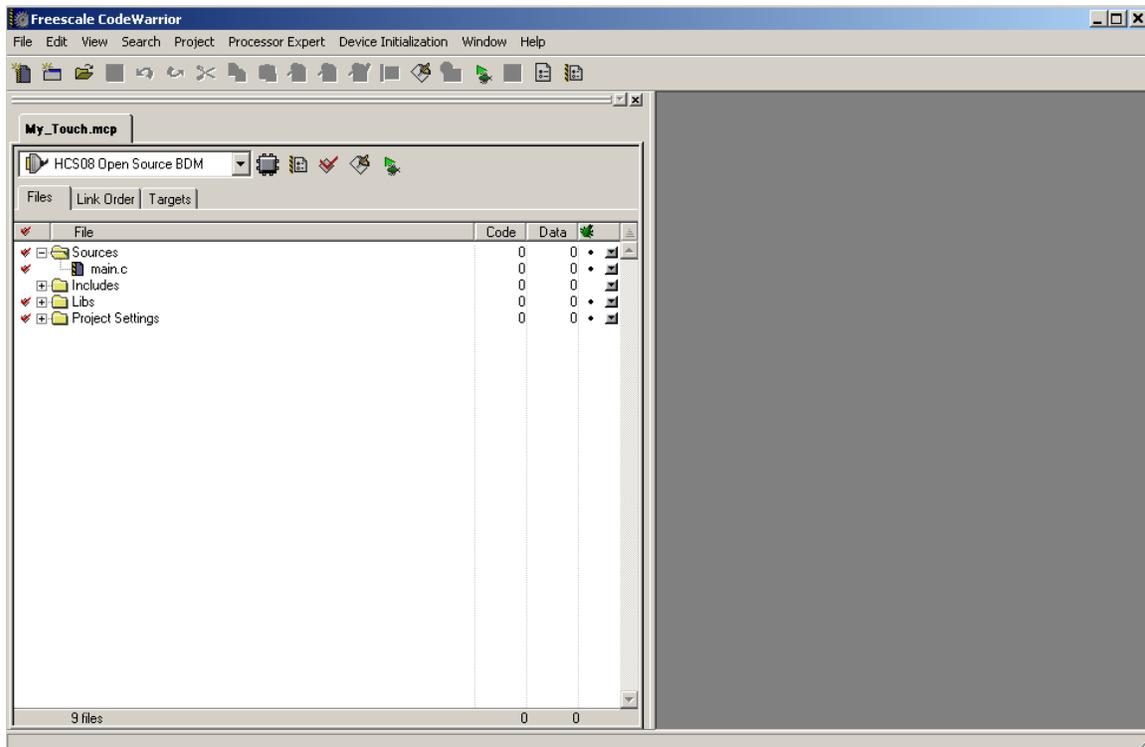

Figure 8. Freescale CodeWarrior window
- After a few moments, the screen appears as shown in Figure 8. The red check marks indicate that the project has not been compiled. Go ahead and build the project by pressing **F7**, click the **Make** icon  or **Project > Make**. You should receive no errors and warnings. The red check marks must disappear. The program does not do anything useful, but you can examine `main.c` by double-clicking file name.